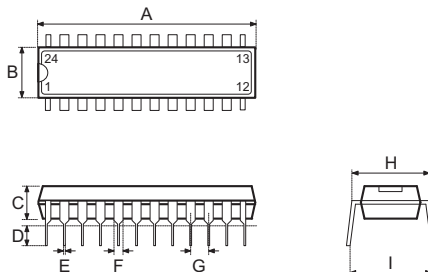

Fig 2. 1/2 Lead Packages
• MS-001d (见 fig 2)
• MO-095a (见 fig 2)